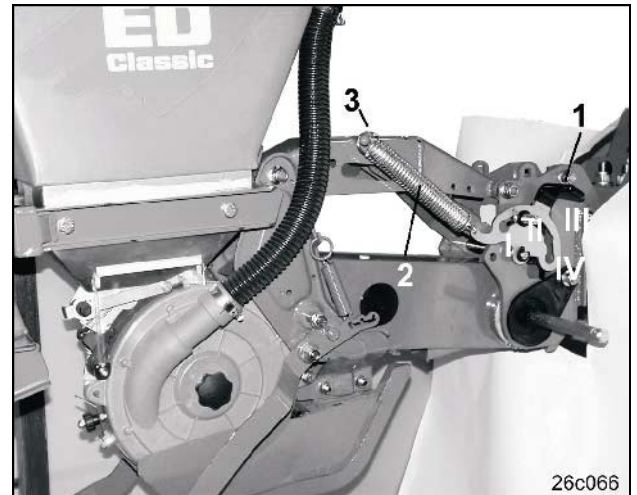

Fig. 77
Hook the tensioning spring (Fig. 77/2) into the upper eye (Fig. 77/3).
Swivel the ratchet lever (Fig. 77/1) for applying additional pressure onto the sowing unit into positions III or IV and lock.
**Hold the ratchet lever (Fig. 77/1) tight as the entire spring force is applied to the lever.**